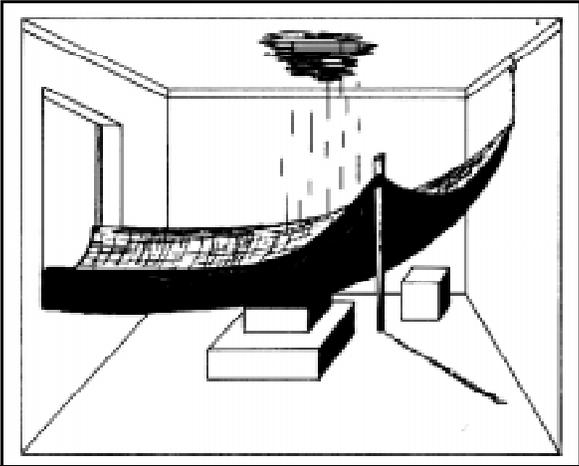

Figure 8-15. Spreading a salvage cover
- Water chute. Use a water chute to drain water from a ceiling to the windows or doors. Spread a salvage cover over two pike poles and roll the poles toward the center to form the chute. The water's weight will tighten the rolls (Figure 8-15, page 8-30). An alternate method of constructing a water chute is by using *S*-hooks, cord, salvage covers, and pike poles. You can tie light rope or heavy cord through the grommets to support the covers. To protect interior structures and contents from water damage, use canvas covers as stairway drains to